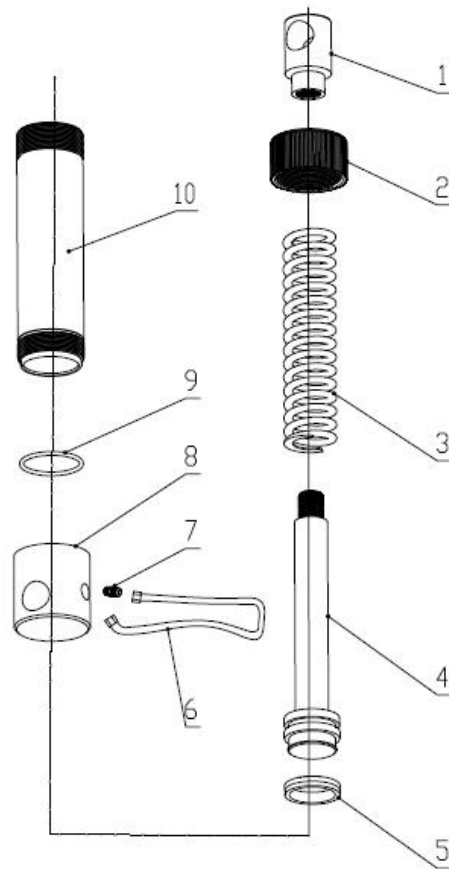

Fig.10
(3) TWQ-V ' s the parts diagram of oil Cylinder system(Fig.10)